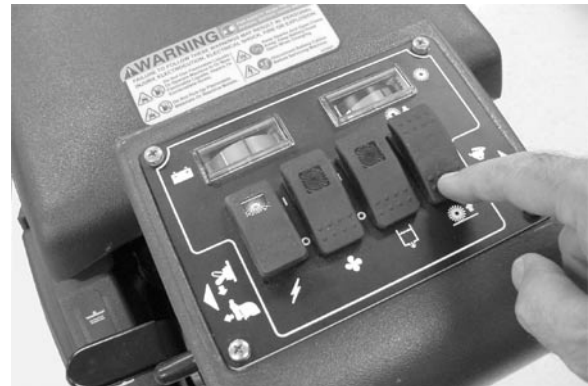

FIG. 6
1. Turn the main power switch to the ON position and raise the scrub head. Press bottom half of brush pressure switch to raise. Hold switch down until scrub head actuator turns off (Figure 6).